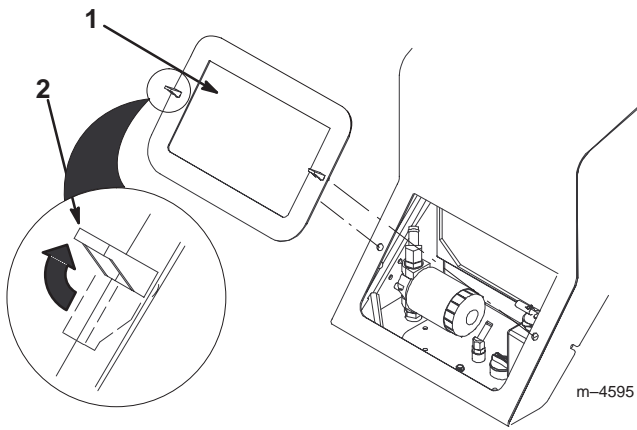

Figure 22
3. Release the two locking tabs (Fig. 22).
4. Pull the cover off of the traction unit (Fig. 22).